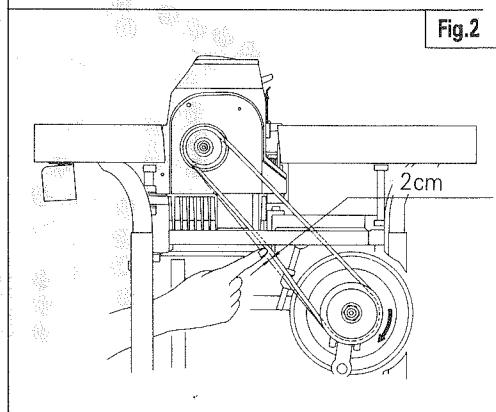

Fig.2
- Set Nut ① vertically into the fixing holes in the work table.
- The distance between the table top surface and the needle plate top surface is approximately 85mm. Refer to Table 1. Use Spacers ⑥ ⑨ and obtain the correct height of 85mm.
- Fix the motor with Bolts ④ .
- Refer to Fig.2. Fix Brackets ⑯ and ⑰ as low as possible.